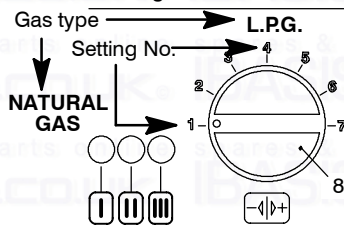

Fig. 8.4
At this step it is possible to visualize the current setting by keeping the reset button 6 pressed for more than 5 seconds. The lamps 9 will flash a number of times corresponding to the setting of the knob 8 in Fig. 8.4.
- 13 To change the setting turn the knob 8 on a position corresponding to the gas used as shown in Fig. 8.4.